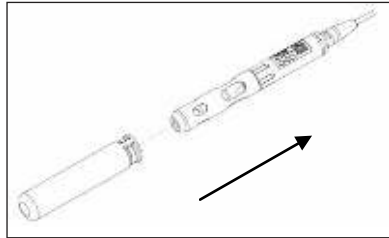

Figure 3
5. Slide the calibration/storage sleeve over the probe guard to keep the probe in a moist environment for storage and calibration (Figure 3). It is important to always keep your sensor in a moist environment so the sensor cap does not dry out.